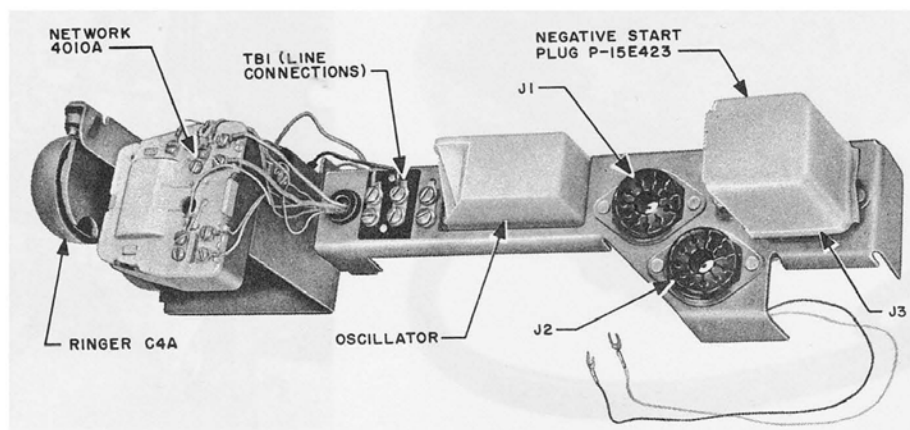

Fig. 6 — Chassis Assembly
3.03 The chassis assembly is equipped with three jacks (Fig. 6) which operate as follows: